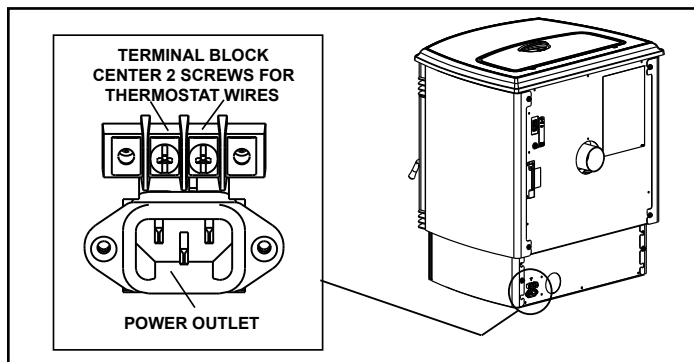

Figure 22.1
2. Connect the thermostat wire to the center two screws of the terminal block on the stove. (Figure 22.1)
There is a 4 screw terminal block located on the back lower left corner of the appliance directly above the power cord inlet. The center 2 screws are for the thermostat wires (see **Figure 22.1**).